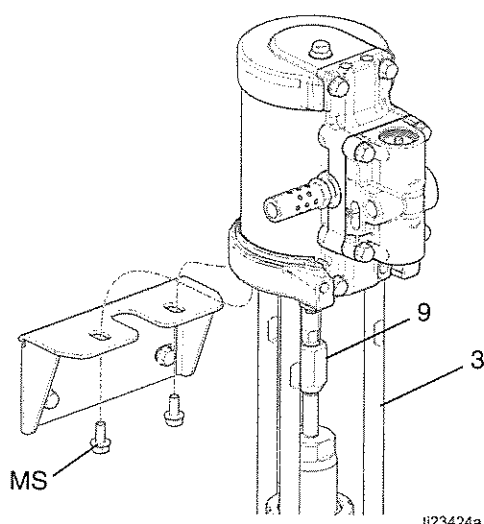

FIG. 4: Disconnect Air Motor
3. See FIG. 4. Use a socket to remove the top two mounting screws (MS).